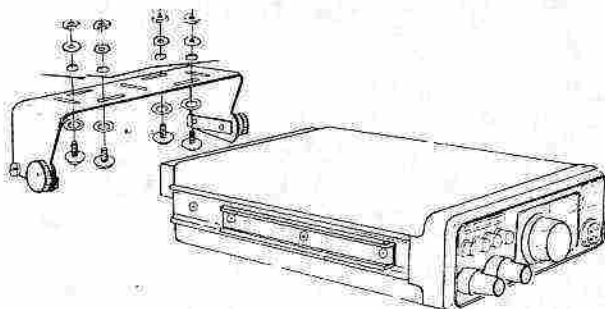

Figure 4
For mobile service, the FT-627RA may be installed where the controls, indicators, and microphone are easily visible and accessible for operation. The unit may be mounted in any position without loss of performance. Suitable locations are atop the transmission tunnel, under the dash, etc. A universal bracket is supplied with the transceiver for this purpose. Install the FT-627RA as follows (refer to Figure 4):
1. Use the universal mounting bracket as a template to locate the mounting holes. Use a 3/16" diameter drill bit for these holes, and allow clearance for the transceiver, its controls, and all connecting cables. Secure the mounting bracket with the screws, washers, and nuts supplied, as shown in Figure 4.